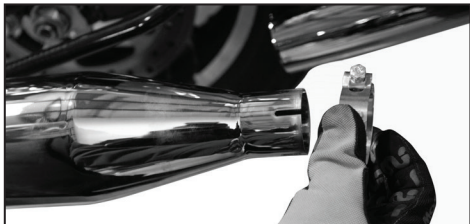

Fig.6
1. Install the supplied clamps on the inlet side of each muffler with the bolt head up. (Figure 6)